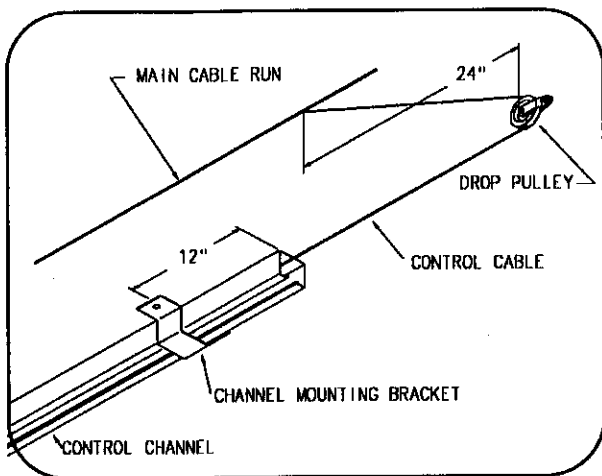

Figure 19
2. Insert the cable through cable clamp switch block and then other cable clamp as shown in Figure 19. Do not tighten switch block cable clamps at this time.